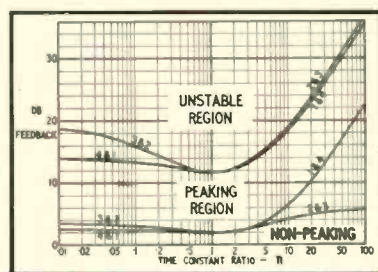

Fig. 10. Limit chart to aid in assessing performance of five-stage loops with non-identical time constants.
Curves of expressions (61), (62), (66), and (67) are plotted in Fig. 10, for values from .01 to 100, as in the other cases. Conclusions to be drawn from this are that three of the networks should